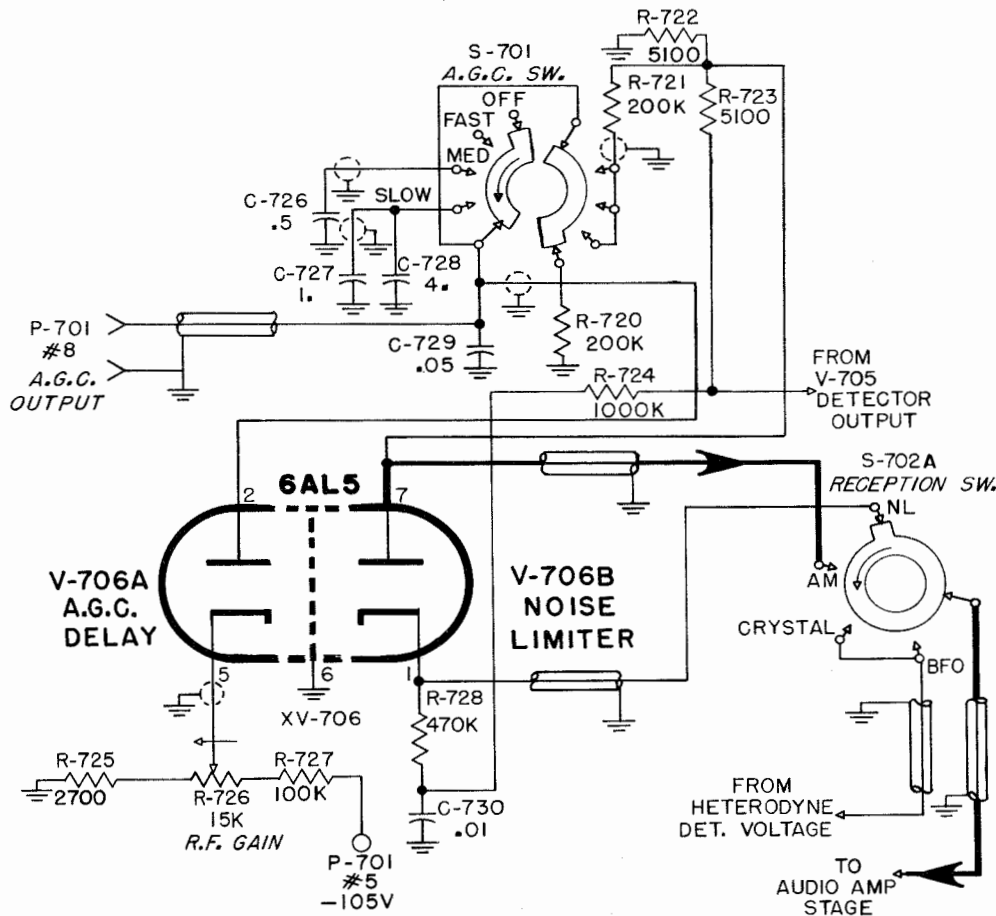

Figure 2-31. A.G.C. and Noise Limiter Stages V-706, Simplified Schematic Diagram
(1) A.G.C. AND NOISE LIMITER CIRCUITS, V-706 (See Figure 2-31).—The rectified audio output from Z-702 is applied to the A.G.C. and noise limiter stages. The direct voltage present at the junction of the diode load resistors R-723 and R-722 is fed through filter resistor R-721 to the A.G.C. switch S-701 and in turn to the plate of the A.G.C. delay